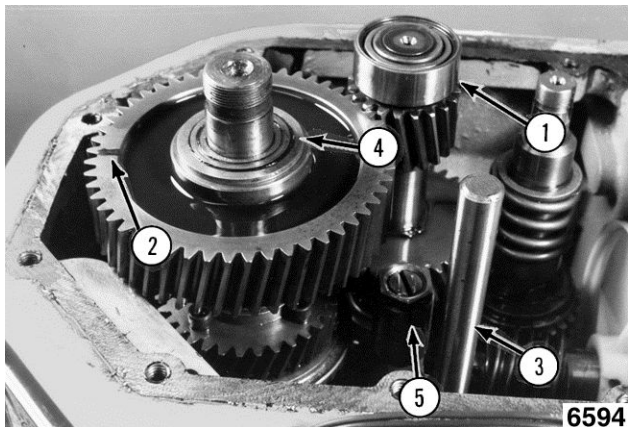

Fig. 51
B. P660 - Install the lower shifting yoke [5] Fig. 51 and insert the shifter shaft [3] Fig. 51.
8. Install the planetary upper gear and key, with tall part of hub (marked side) [2] Fig. 51 to the top of machine on the planetary shaft.